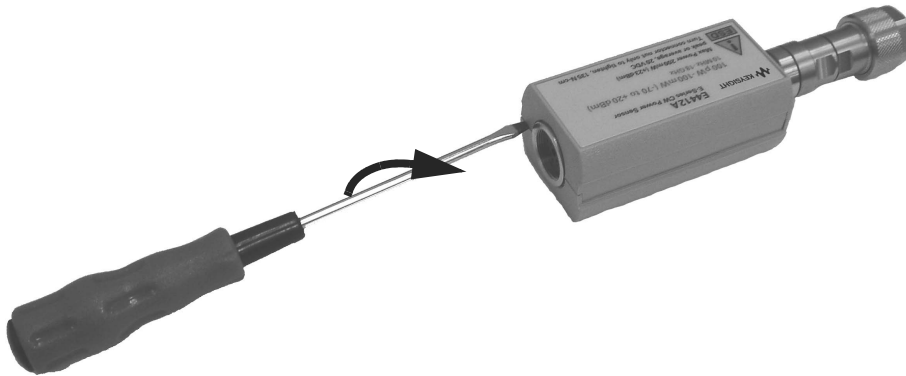

Figure 1-7 Removing Power Sensor Shell
- 1 At the rear of the power sensor, insert the blade of a screwdriver between the plastic shells (Figure 1-7). To prevent damage to the plastic shells use a screwdriver blade as wide as the slot between the two shells.
- 1 Replace the magnetic shields and the plastic shells as shown in Figure 1-7. Snap the plastic shells together.